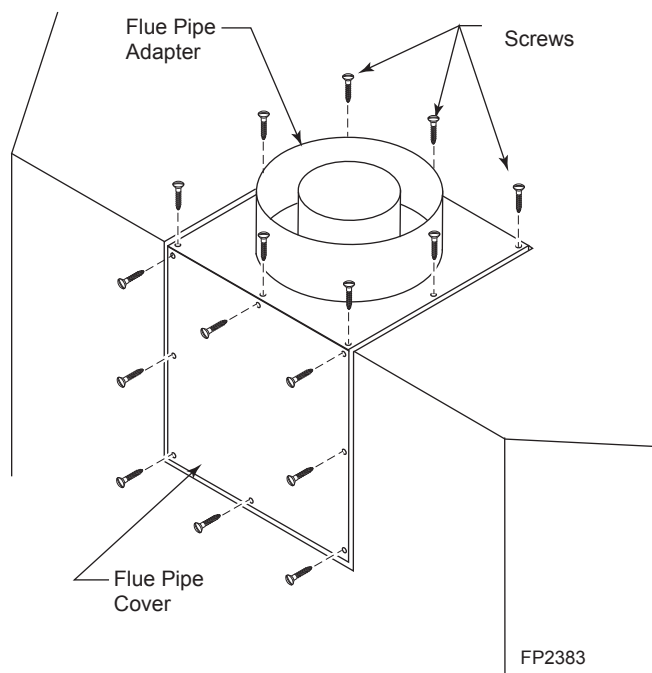

**Figure 8 -
1. Remove the eight (8) screws securing the flue pipe adapter to the fireplace body. *Figure 8*
3. Remove the eight (8) screws securing the flue pipe cover to the back of the intake box and remove the cover and gasket. *Figure 8*